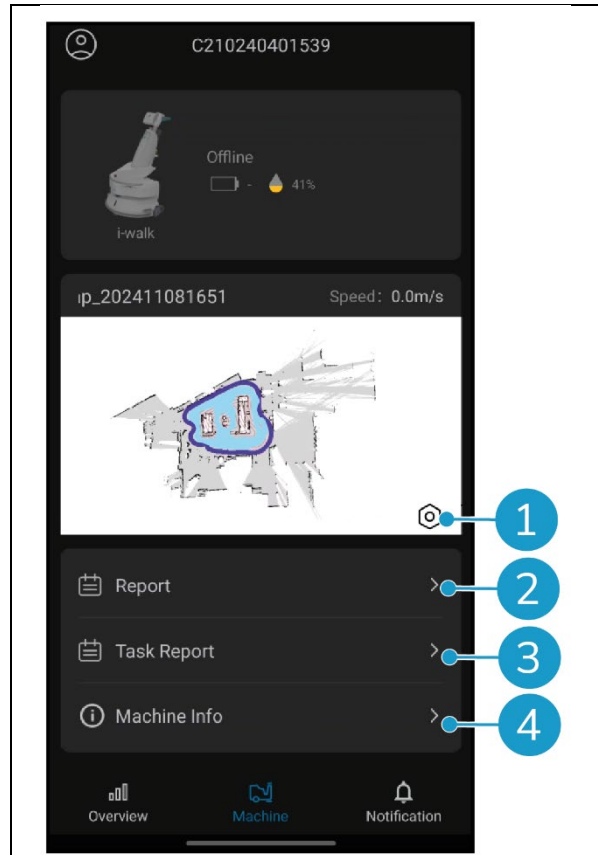

Figure 32
- Tap the [Nut] icon (Figure 32, pos. 1) to edit the cleaning map. You can draw on the map to indicate areas to avoid.
- Tap the [Report] button (Figure 32, pos. 2) to open the Machine Report.
- Tap the [Task Report] button (Figure 32, pos. 3) to open the Task Report.
- Tap the [Machine Info] button (Figure 32, pos. 4) to view information about the machine.